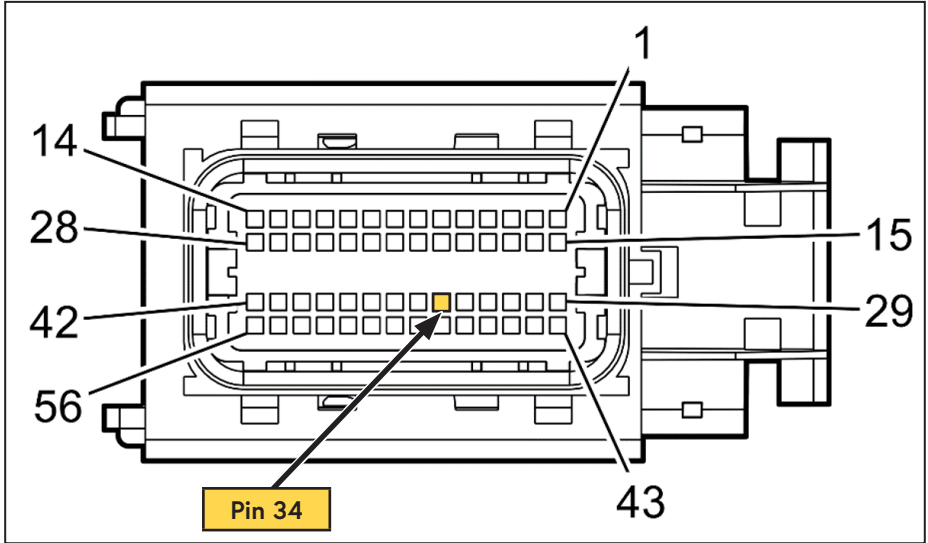

Figure 6 — 2015+ ECM Connector X1
- Locate the white wire with the grey stripe going to pin 34 in the ECM X1 connector (Figure 6).